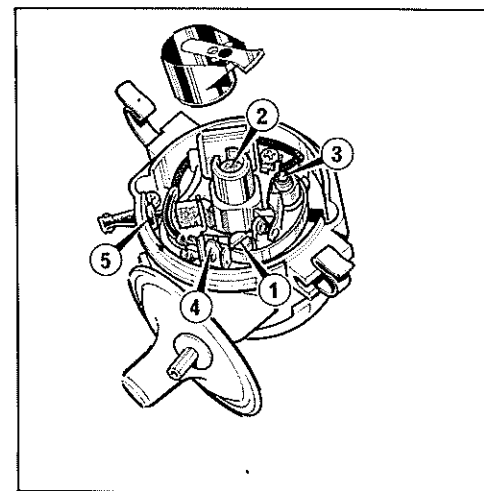

Figure 43 Distributor — general view
- 3 Slacken the slotted headed screw (**Figure 43**) in the contact plate and adjust until the gap is 0.38 mm (0.015 inches). The gap is measured with a suitable feeler gauge and pressure should be applied to the points, with the feeler gauge inserted between them, whilst the screw is being tightened.